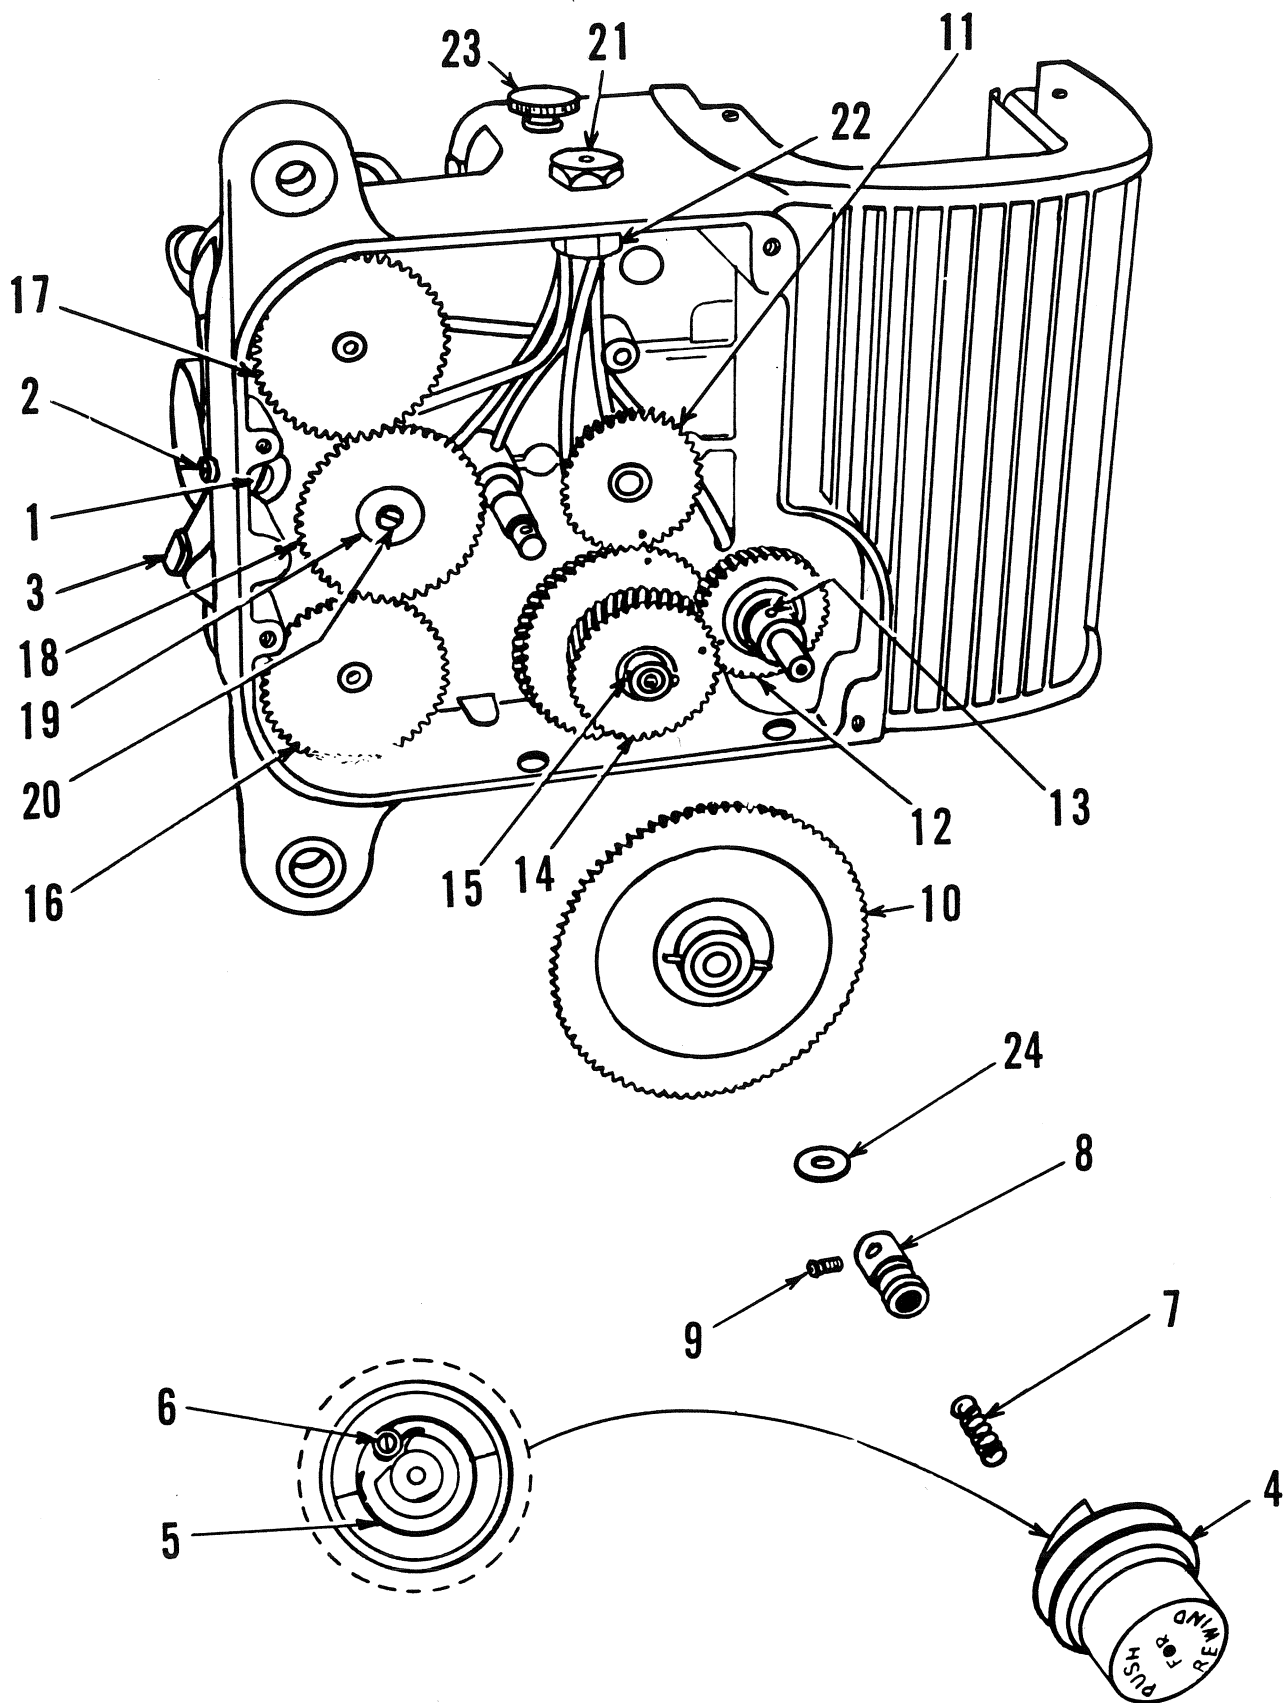

Figure 9 - MECHANISM (Exploded view)
- (5) Rewind Clutch Assembly and Large Intermediate Gear Assembly (See Fig. 9) - Remove the rear cover as per par. 6-a and lift the rewind belt off of the rewind clutch.
- (6) Sprocket Gear Assemblies and Small Intermediate Gear Assemblies (See Fig. 9). - Pull out the feed sprocket gear assembly (17) and takeup sprocket gear assembly (16). Remove the screw (20) and washer (19) from the end of the small intermediate sprocket gear assembly (18) and remove the gear and spacing washer.
- (7) Camshafts and Shutter Gear (See Fig. 9) - Rotate the gear train until the timing marks on the Camshaft gears and shutter gear are aligned - the large end of the tapered pins (13 & 15) which hold the camshaft gears (12 & 14) will now be as shown. Rotate the vertical camshaft gear (14) 1/2 turn and drive out the tapered pin (15). Push the camshaft out of the bearing and remove the gear. Pull out the shutter gear assembly (11). Support the hub of the lateral camshaft gear assembly on a "V" block and drive out the tapered pin (13). Remove the gear and the shaft.
Remove the oil well cap (21 Fig. 9) and oil well strainer, then squirt oil thru each tube and make sure that it flows out thru each bearing and onto the large and small intermediate gear studs. If oil does not flow into the bearings check for plugged tubes. Either replace the oil well pad or clean the old one with carbon tetrachloride. Hold the oil well (22 Fig. 9) with a wrench while tightening the cap in order to avoid damaging the oil tubes.
Place a .010" spacing washer on the vertical camshaft and insert the shaft in the bearing. Measure the distance from the face of the cam to the face of the mechanism (finished surface upon which front cover bears). Use spacing washers as required to make the distance from the cam to the face of the mechanism .533" \pm .002". Place a .010" spacing washer on the opposite end of the shaft. Turn the cam so that it faces the lamphouse and install the gear with the larger hole for the tapered pin as indicated in Fig. 9. Slip the tapered pin in place and check for endplay. Use spacing washers as required to reduce the endplay to .001" - .003". When the correct combination of washers has been selected, remove the gear and the washers and place them together for future installation.
from the face of the lateral cam to the face of the mechanism. Use spacing washers as required to locate the cam within .001" of the same distance as the vertical cam is located from the face of the mechanism. Rotate the lateral cam so that it faces the vertical cam, then install the lateral cam gear with the larger hole for the tapered pin as indicated in Fig. 9. Insert the tapered pin and check for endplay in the shaft. Add spacing washers as required in order to reduce the endplay to .001" - .003". When the correct combination of washers has been selected, support the gear hub on a "V" block and drive home the pin.
Check the position of the end of the release spring (See 5 Fig. 9) with respect to the groove in the clutch dog. The spring should be approximately 1/8" ahead of the bottom of the groove. If the rewind clutch releases during the rewinding process, decrease the distance between the release spring and the clutch dog by loosening the spring retaining screw (6 Fig. 9) and retarding the spring. If the rewind clutch does not release at the end of the rewinding process, increase the distance between the spring and the clutch dog.
5. Gate Pressure (See Fig. 9)